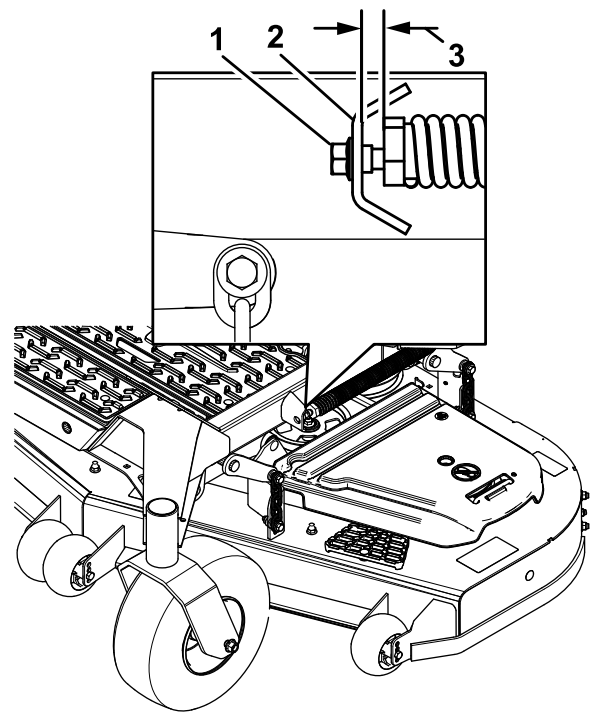

Figure 88
10. Slowly loosen the adjusting screw on the lift-assist spring until you can remove the screw (Figure 88).